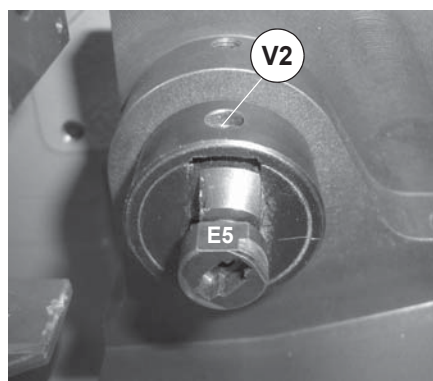

Fig. 57
- 4) Fit the adapter **E5** into the K1 tailstock so that the initials **E5** are facing upwards and the adapter is butting well up against the K1 tailstock grips (fig. 57).